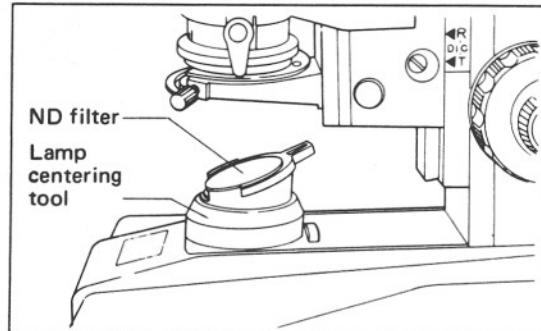

Fig. 5
- 7) Put the lamp centering tool on the field lens and onto the tool place a ND filter taken out of the filter receptacle. (Fig. 5)